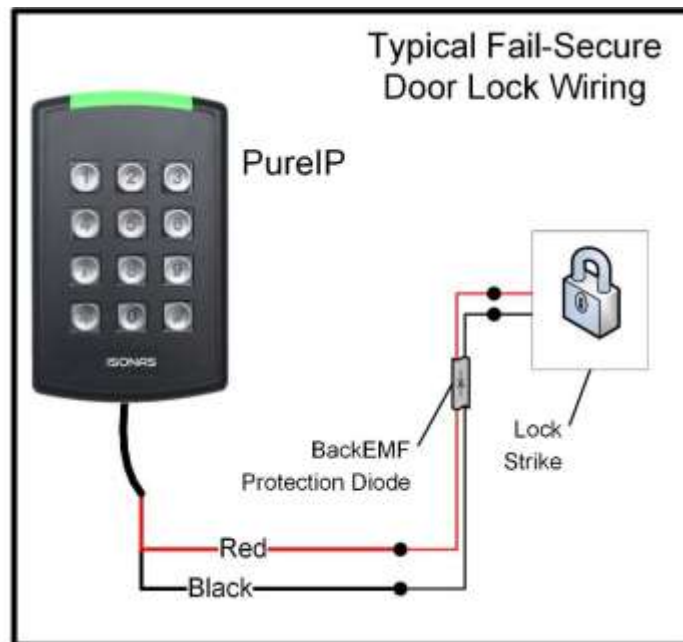

Figure 7
1. Connect the **Red** wire on the ISONAS Reader-controller to the positive lead of the electric lock. See **Figure 7**